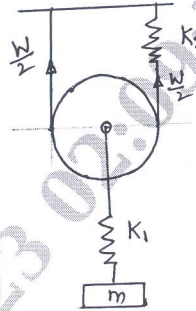

Fig.Q7(c)
- c. Determine the frequency of vibration of the system shown in Fig.Q7(c). Use the following data $m = 10 \text{ kg}$, $K_1 = 200 \text{ N/m}$, $K_2 = 400 \text{ N/m}$.